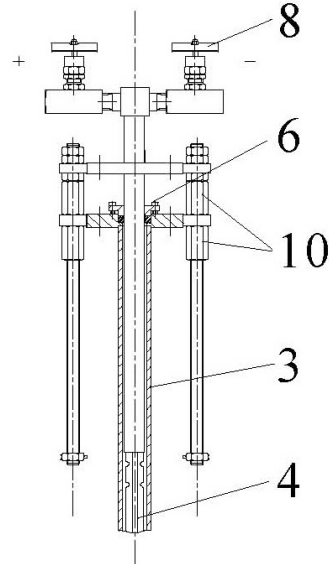

Fig. 26 Sensor profile in working position
4. Upon completion of the Flo-Tap insertion, the threaded rods and nuts of the insert-retract mechanism should be in a position as shown in fig 26.